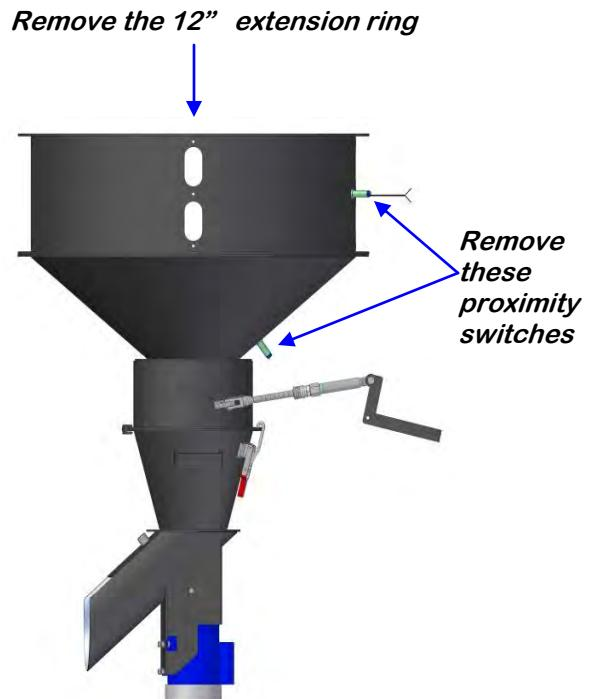

Figure 1
4. Disconnect and remove the proximity switches located in the supply hopper of the seed treater (figure 1). The Seed Wheel is supplied with proximity switches which must be used.
5. Remove the extension ring from the seed treater (figure 1).